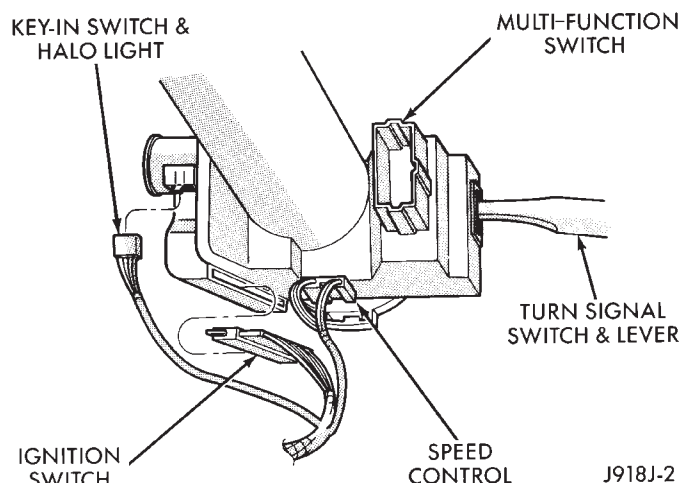

Fig. 2 Key in Switch and Halo Lamp Connector
- (5) Gently pull switch away from the column. Release two connector locks on the 7-terminal wiring connector. Remove the connector from the ignition switch.
- (6) Release connector lock on the Key-In-Switch and Halo Light 4-terminal connector. Remove the connector from the ignition switch (Fig. 2).